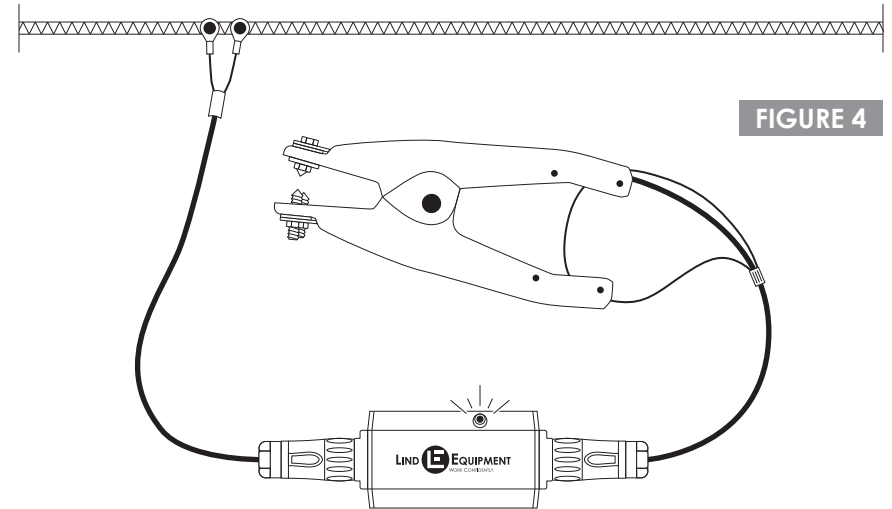

FIGURE 4
- + If the device is working properly a red warning light should immediately start to blink (FIGURE 4).